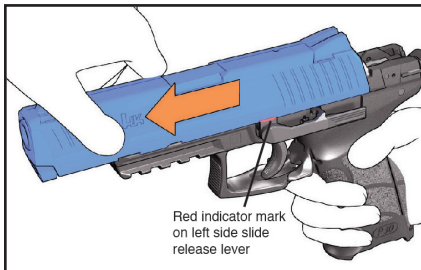

Figure 22 — Removing the slide
7. Pull the slide release to the left until it reaches the locking position. A red painted area on the top of the part will be exposed, indicating the part is in its outermost position. Pull the slide forward off the pistol's frame (Figure 22).